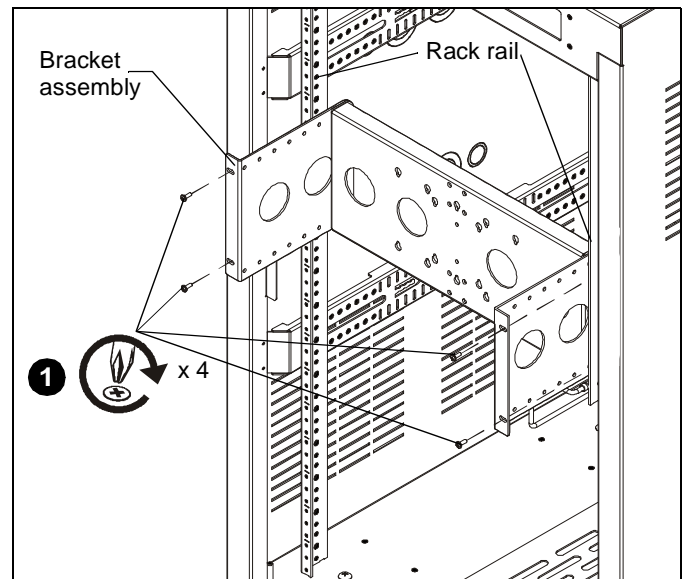

Figure 7
1. Install bracket assembly to rack rails using four screws (D or F, or other fasteners as applicable). (See Figure 7)